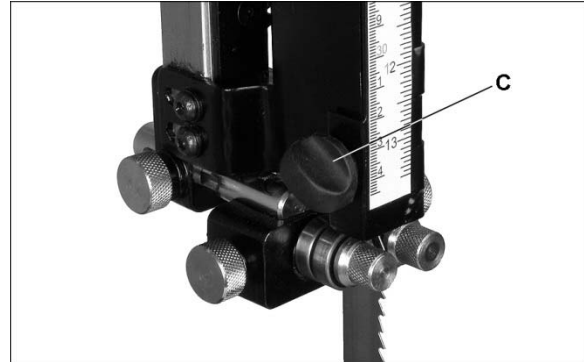

Figure 17
- Loosen knob (C, Figure 17) and pivot guide post cover out of the way.